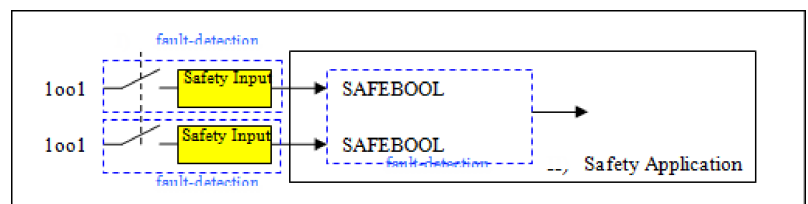
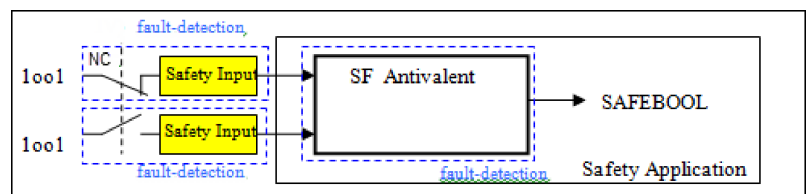
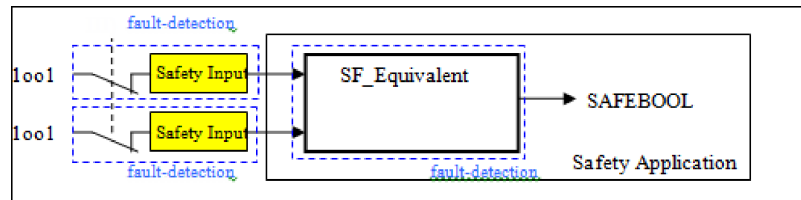

Fig. 70: Connection of the safety application to Safety input device with 1oo1 evaluation
Fig. 71: 1oo1 evaluation: Error detection with SF\_Antivalent
Fig. 72: 1001 evaluation: Error detection with SF\_Equivalent
The switches can consist of any combination of normally closed (NC) and normally open (NO) that take into consideration the requirements and the capability to detect errors of the Safety input. In Fig. 70, an additional error detection must be implemented in the safety application. This is implemented either in the signal-processing function block or separately via the SF\_Equivalent function block (see Fig. 72) or the SF\_Antivalent function block (see Fig. 71).